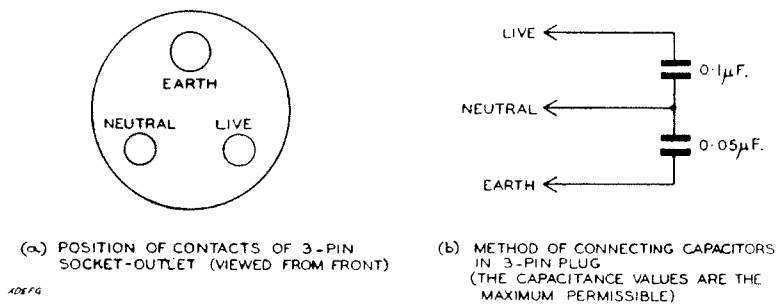

FIG. 7—PLUG SUPPRESSOR
33. With appliances not permanently earthed the small value of capacitance ($0.005\mu\text{F}$.) which may be connected from each line to frame may not give adequate suppression. For these appliances, it is usually necessary to insert series inductors to supplement the action of the capacitors. Alternative arrangements to avoid the need to use inductors would be the use of mains-plug suppressors [see Table 1, Item (b) and Fig. 7] or capacitors at the socket-outlet. For the latter arrangement the capacitance limitations for permanently earthed appliances would apply [see Table 1, Item (c)].
essential to ensure that the socket-outlet is wired in accordance with Fig. 7(a) and that the earth-socket is connected to earth. When using mains-plug suppressors, all the socket-outlets at which the appliance may be used should be checked for correct wiring and for the presence of an efficient earth connexion.